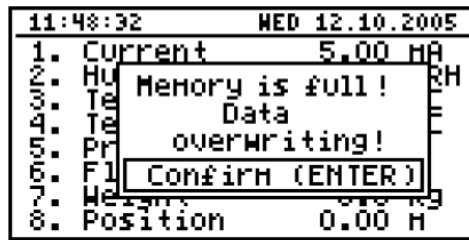

Fig. 7.16. Warning in “cyclic” recording mode
- after filling all the available memory with recorded measurement results, the measurement results recorded next will be written from the starting address in the memory, overwriting previously recorded data. During the first overwriting operation a warning message (Fig. 7.16) will be displayed; this message must be confirmed with the [ENTER] key. This warning shall be repeated when the unit is switched on. Instead of **"Time left"** parameter in the **"Device information"** menu the display will show the **"Data overwriting"** message.